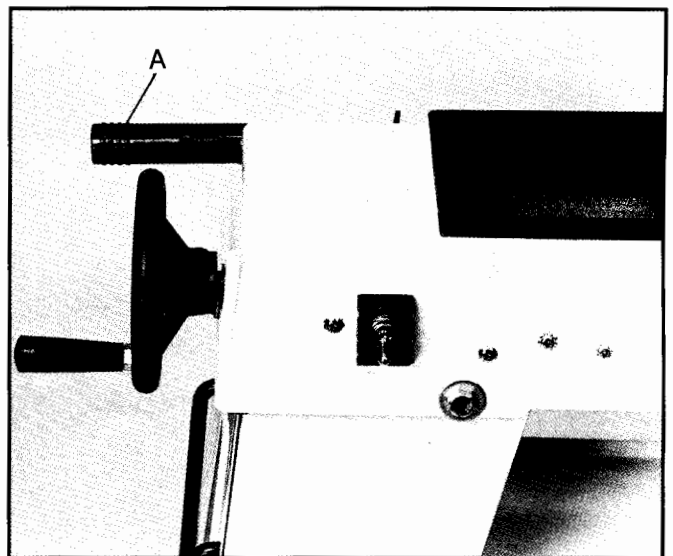

Fig. 13
1. Turn handle (A, Fig. 13) clockwise to increase cutting pressure and counter-clockwise to decrease cutting pressure.